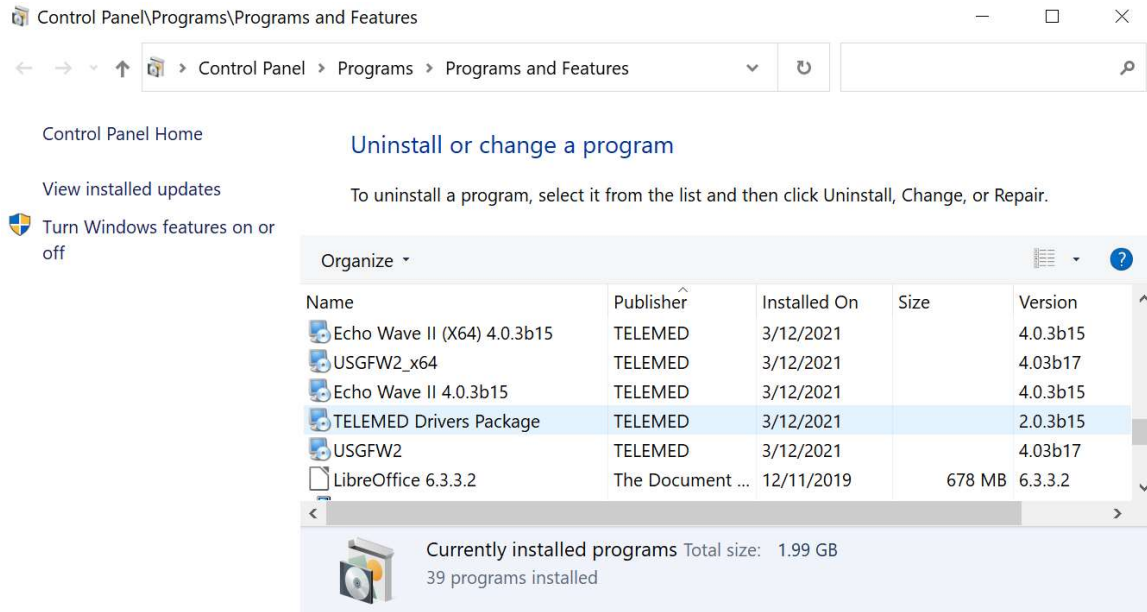

Figure 18: Telemed software in the Programs and Features.
- Optional: To upgrade the ArtUs-CPA driver uninstall the old ArtUs-CPA driver through Device manager, Figure 18. (This step is not required for the first-time installation.)